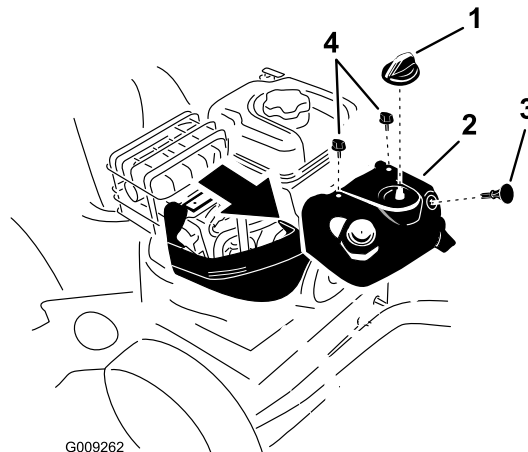

Figure 52
Note: To access the spark plug, you must first remove the upper snow hood (Figure 52).
1. Remove the choke knob and the ignition key (Figure 52).
2. Remove the 2 screws that secure the upper snow hood to the snowthrower (Figure 52).